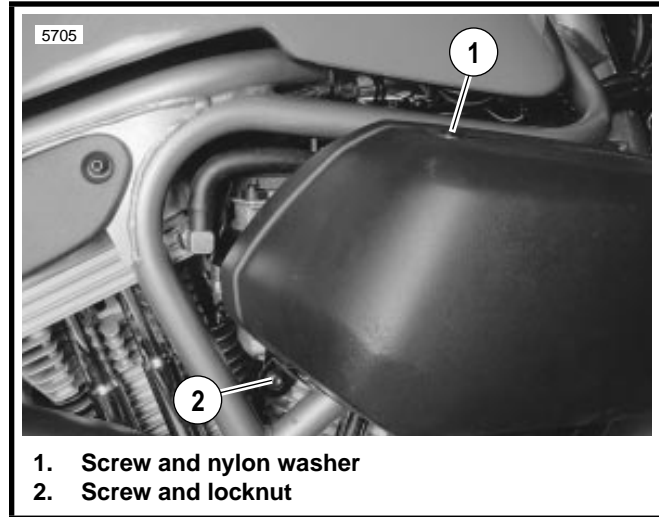
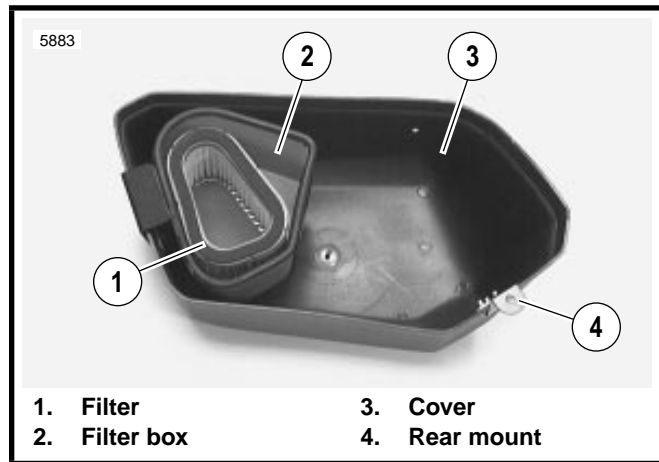

Figure 19. Air Cleaner Cover
Figure 20. Inside of Air Cleaner Cover
1. See Figure 19. Remove screw and nylon washer (1) on top of air cleaner cover.
2. Remove screw and locknut (2) at rear of air cleaner cover.
3. See Figure 20. Remove cover (3) with attached filter box (2) and filter (1).
6. See Figure 20. Check air cleaner filter. Place filter inside filter box. Place cover assembly over backplate.
7. See Figure 19. Install screw and washer into top well nut.